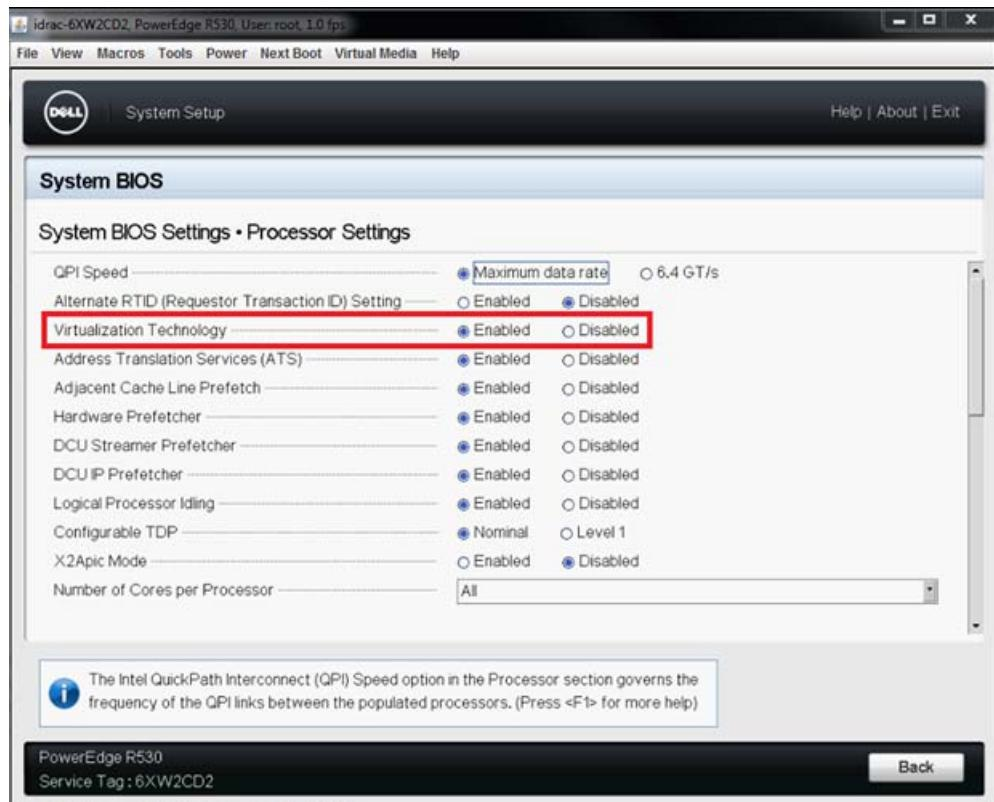

Figure 11-8. System Setup: Processor Settings for SR-IOV
5. On the Processor Settings (Figure 11-8) page: